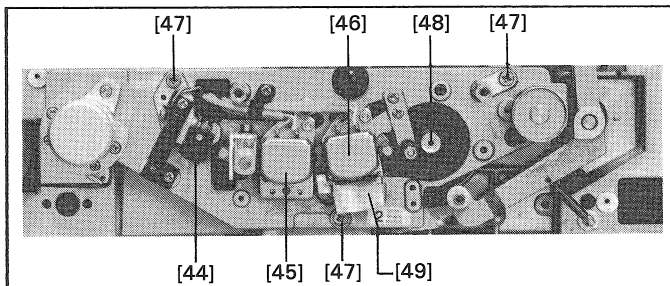

Fig. 20
- Unfasten 3 screws [47] (Fig. 20) of the headblock.